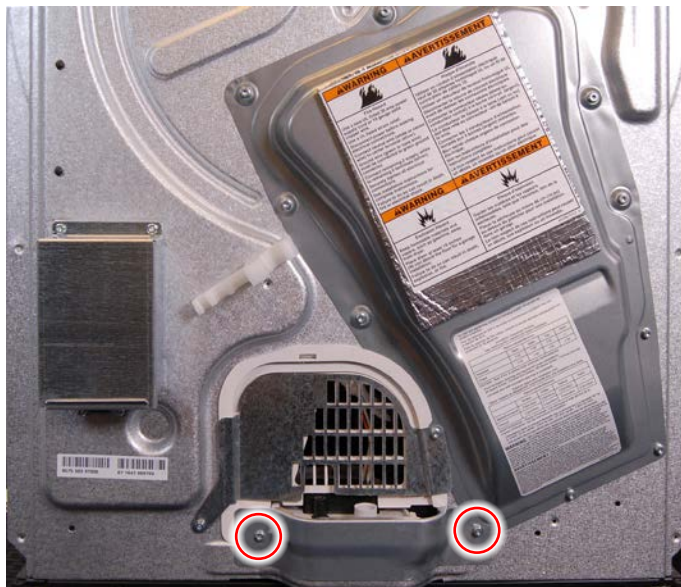

Figure 2
5. Use a T20 Torx driver to remove the two (2) screws securing sump bracket to the back panel (as illustrated in Figure 2). Remove sump bracket and set aside.